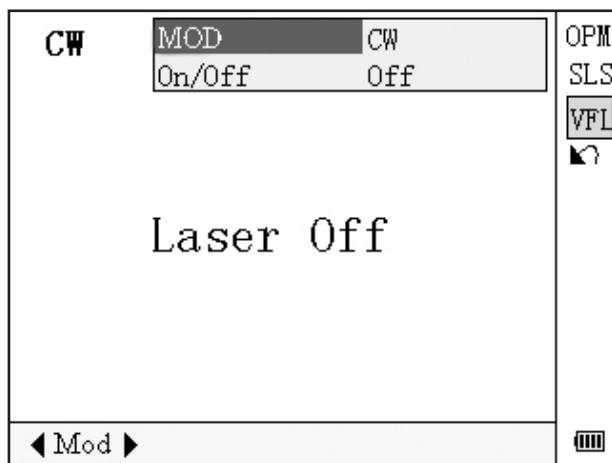

Figure 4-15. Visible Fault Locator Setting
2. Use **◀** and **▶** to toggle between VFL working modes. Press Enter to enter VFL setting interface (Figure 4-15).